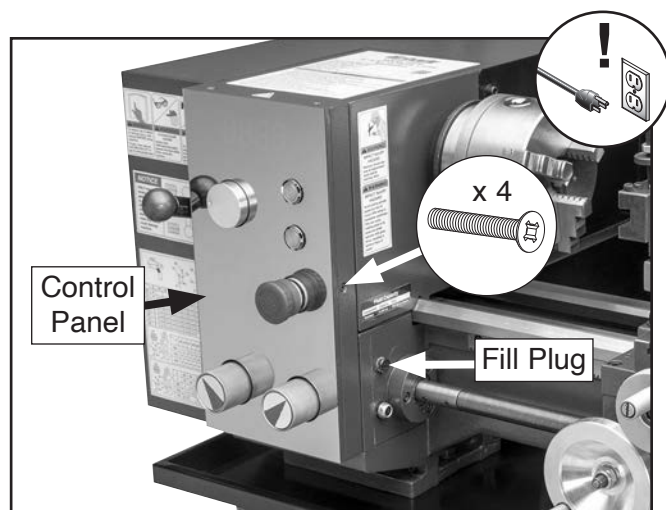

Figure 118. Location of gearbox oil fill plug, control panel, and control panel screws.
3. Remove fill plug (see **Figure 118**).
8. Remove (4) Phillips head screws shown in **Figure 118** to remove control panel.